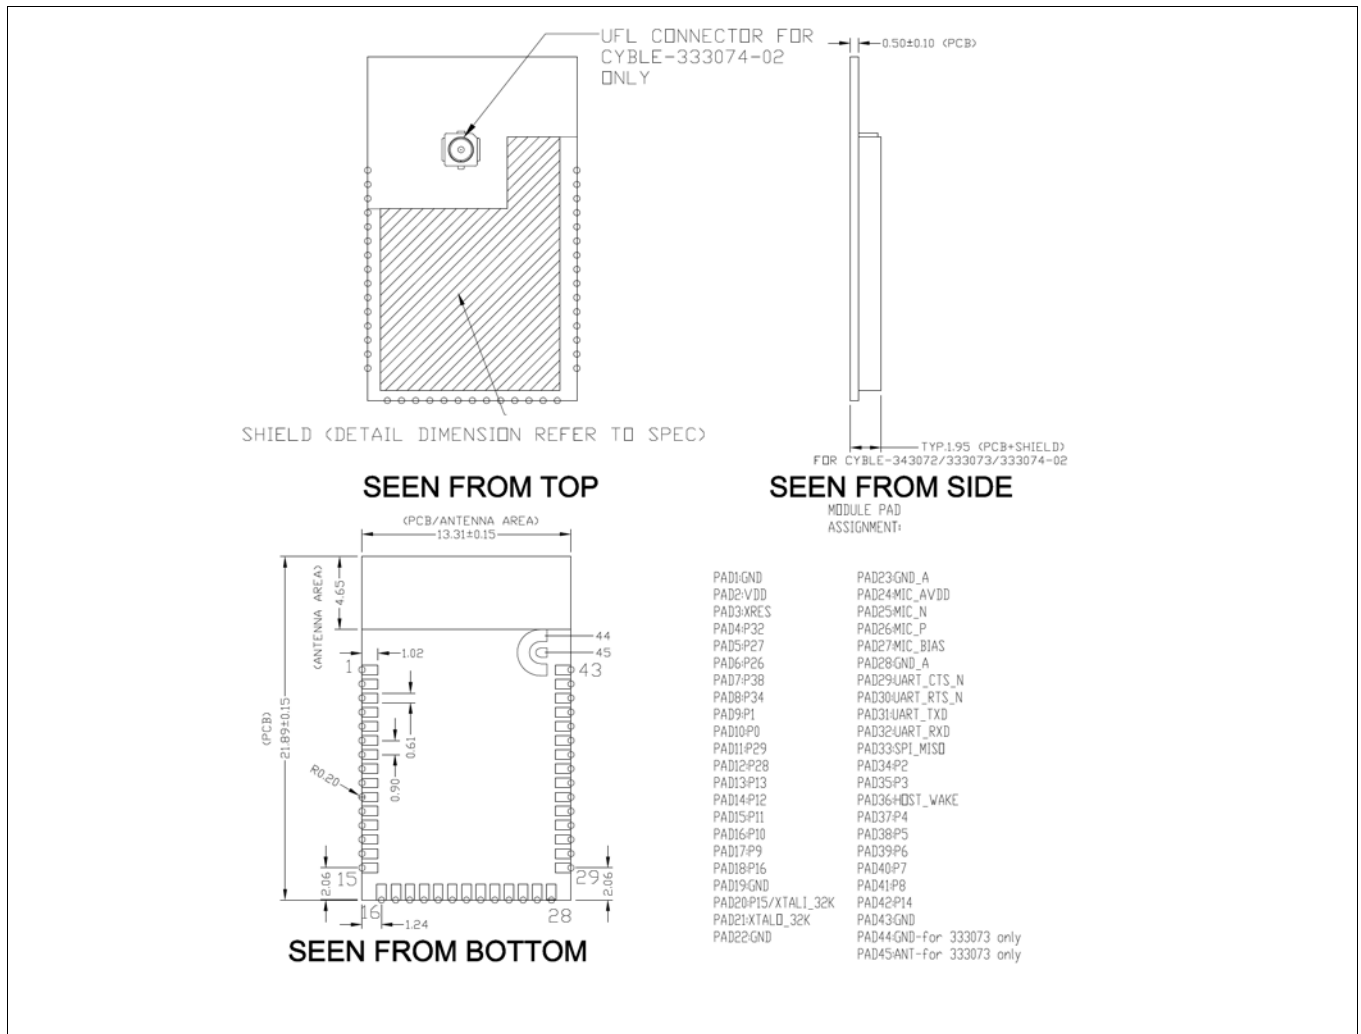
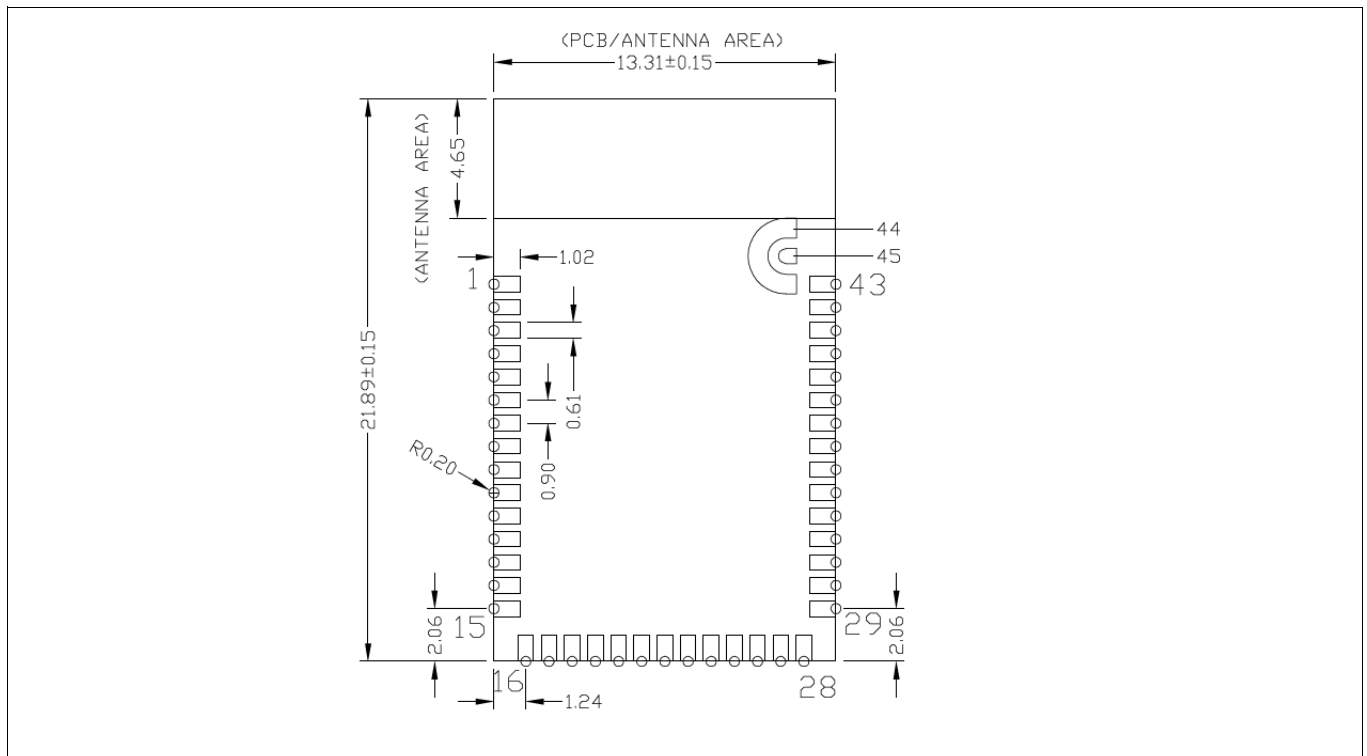

Figure 2 Module mechanical drawing
Figure 3 Solder pad dimensions (seen from bottom)
Infineon reserves the right to select components from various vendors to achieve the Bluetooth® module functionality. Such selections will still guarantee that all mechanical specifications and module certifications are maintained. Designs should be held within the physical dimensions shown in the mechanical drawings in **Figure 2**. All dimensions are in millimeters (mm).
See Figure 2 for the mechanical reference drawing for CYBLE-3x307x-02.
As shown in the bottom view of Figure 2, the CYBLE-3x307x-02 connects to the host board via solder pads on the backside of the module. Table 2 and Figure 3 detail the solder pad length, width, and pitch dimensions of the CYBLE-3x307x-02 module.
1. Antenna Area Keepout: The host board directly below the antenna area of the module (see Figure 2) must not contain ground or signal traces. This keepout area requirement applies to all layers of the host board.
2. Module Placement: The ideal placement of the Bluetooth® module is in a corner of the host board with the PCB trace antenna located at the far corner. This placement minimizes the additional recommended keepout area stated in item 2. Refer to AN96841 for module placement best practices.